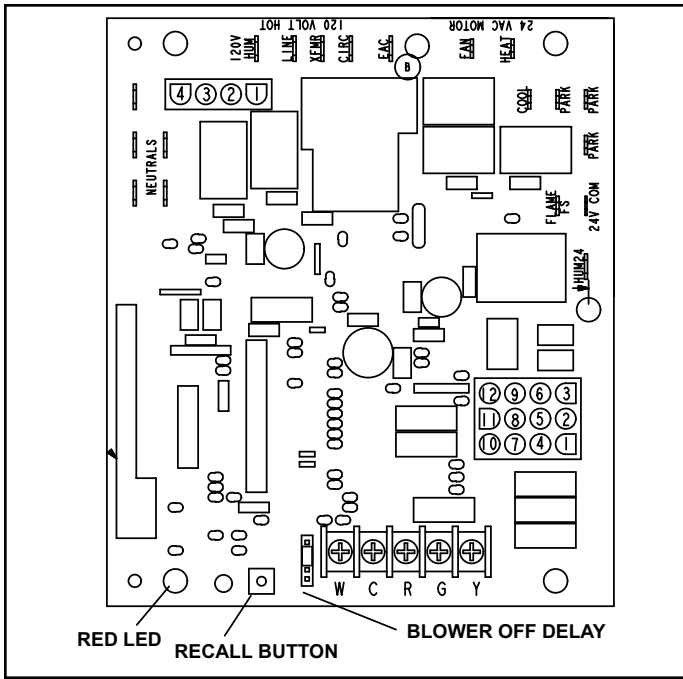
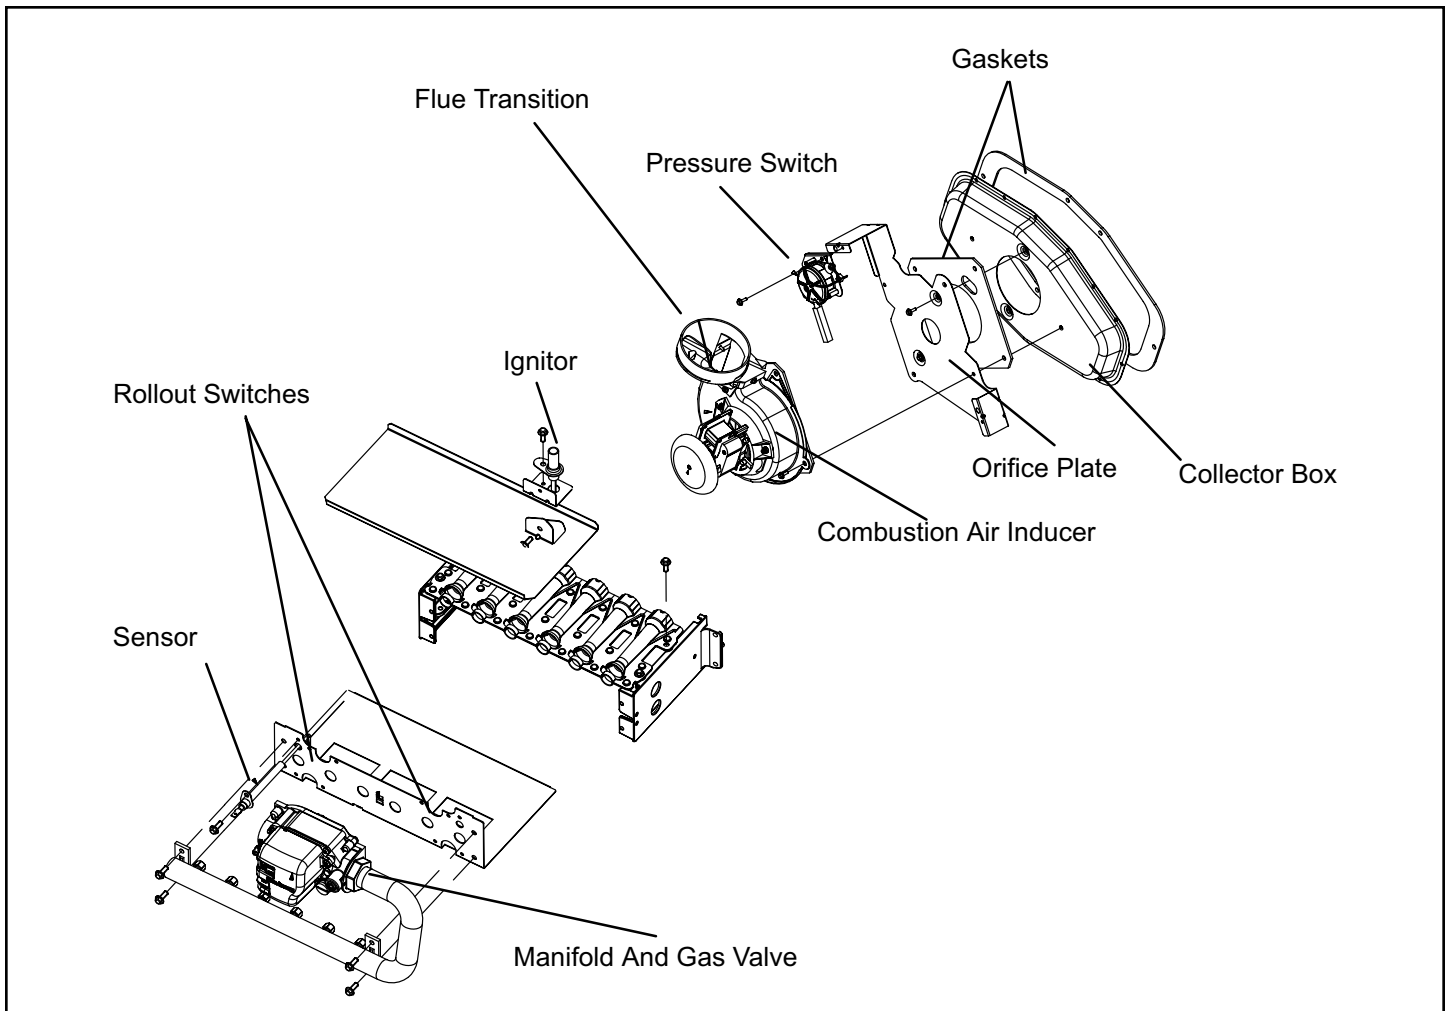

Figure 3. Integrated Control (Automatic Hot Surface Ignition System)
Figure 6. Heating Components
The hot surface ignition control system consisting of an integrated control (Figure 3 with control terminal designations in Table 1 through Table 3), sensor and ignitor (Figure 6). The integrated control and ignitor work in combination to ensure furnace ignition and ignitor durability. The integrated control, controls all major furnace operations. The integrated control also features a RED LED for troubleshooting and two accessory terminals rated at (1) one amp. See Table 4 or Table 5 for troubleshooting diagnostic codes. The nitride ignitor is made from a non-porous, high strength proprietary ceramic material that provides long life and trouble free maintenance.
Ignitor (Figure 6)
Flame Rollout Switches (Figure 6)
Flame Sensor (Figure 6)
Gas Valve (Figure 6)